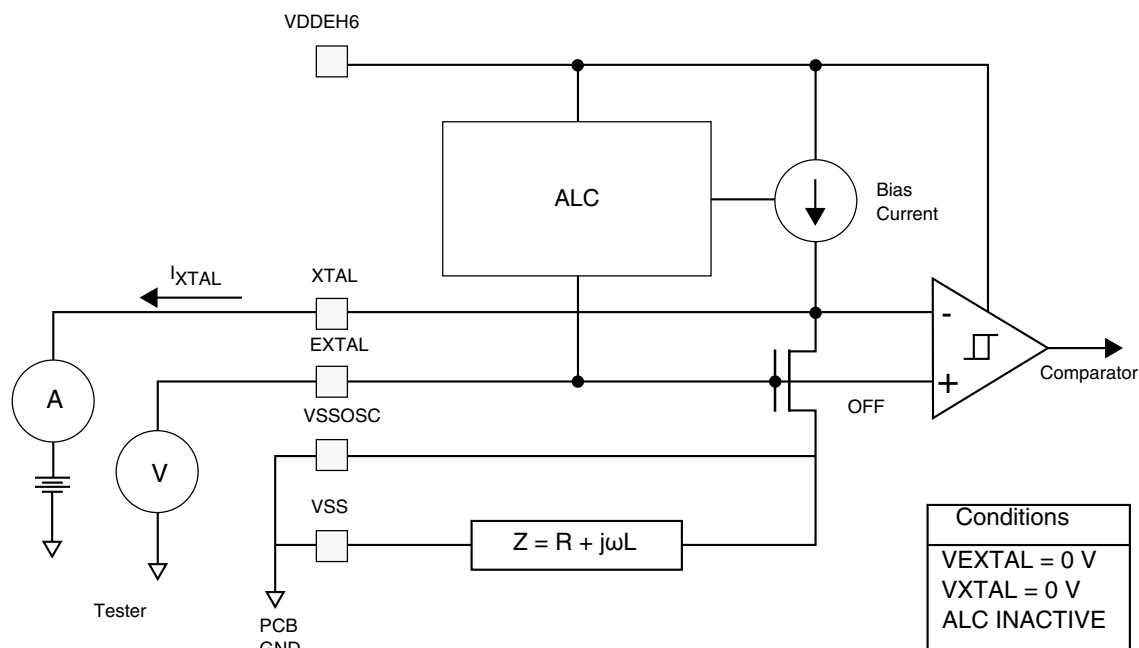

Figure 6. Test circuit
7. I_{XTAL} is the oscillator bias current out of the XTAL pin with both EXTAL and XTAL pins grounded. This is the maximum current during startup of the oscillator. The current after oscillation is typically in the 2–3 mA range and is dependent on the load and series resistance of the crystal. Test circuit is shown in Figure 6.